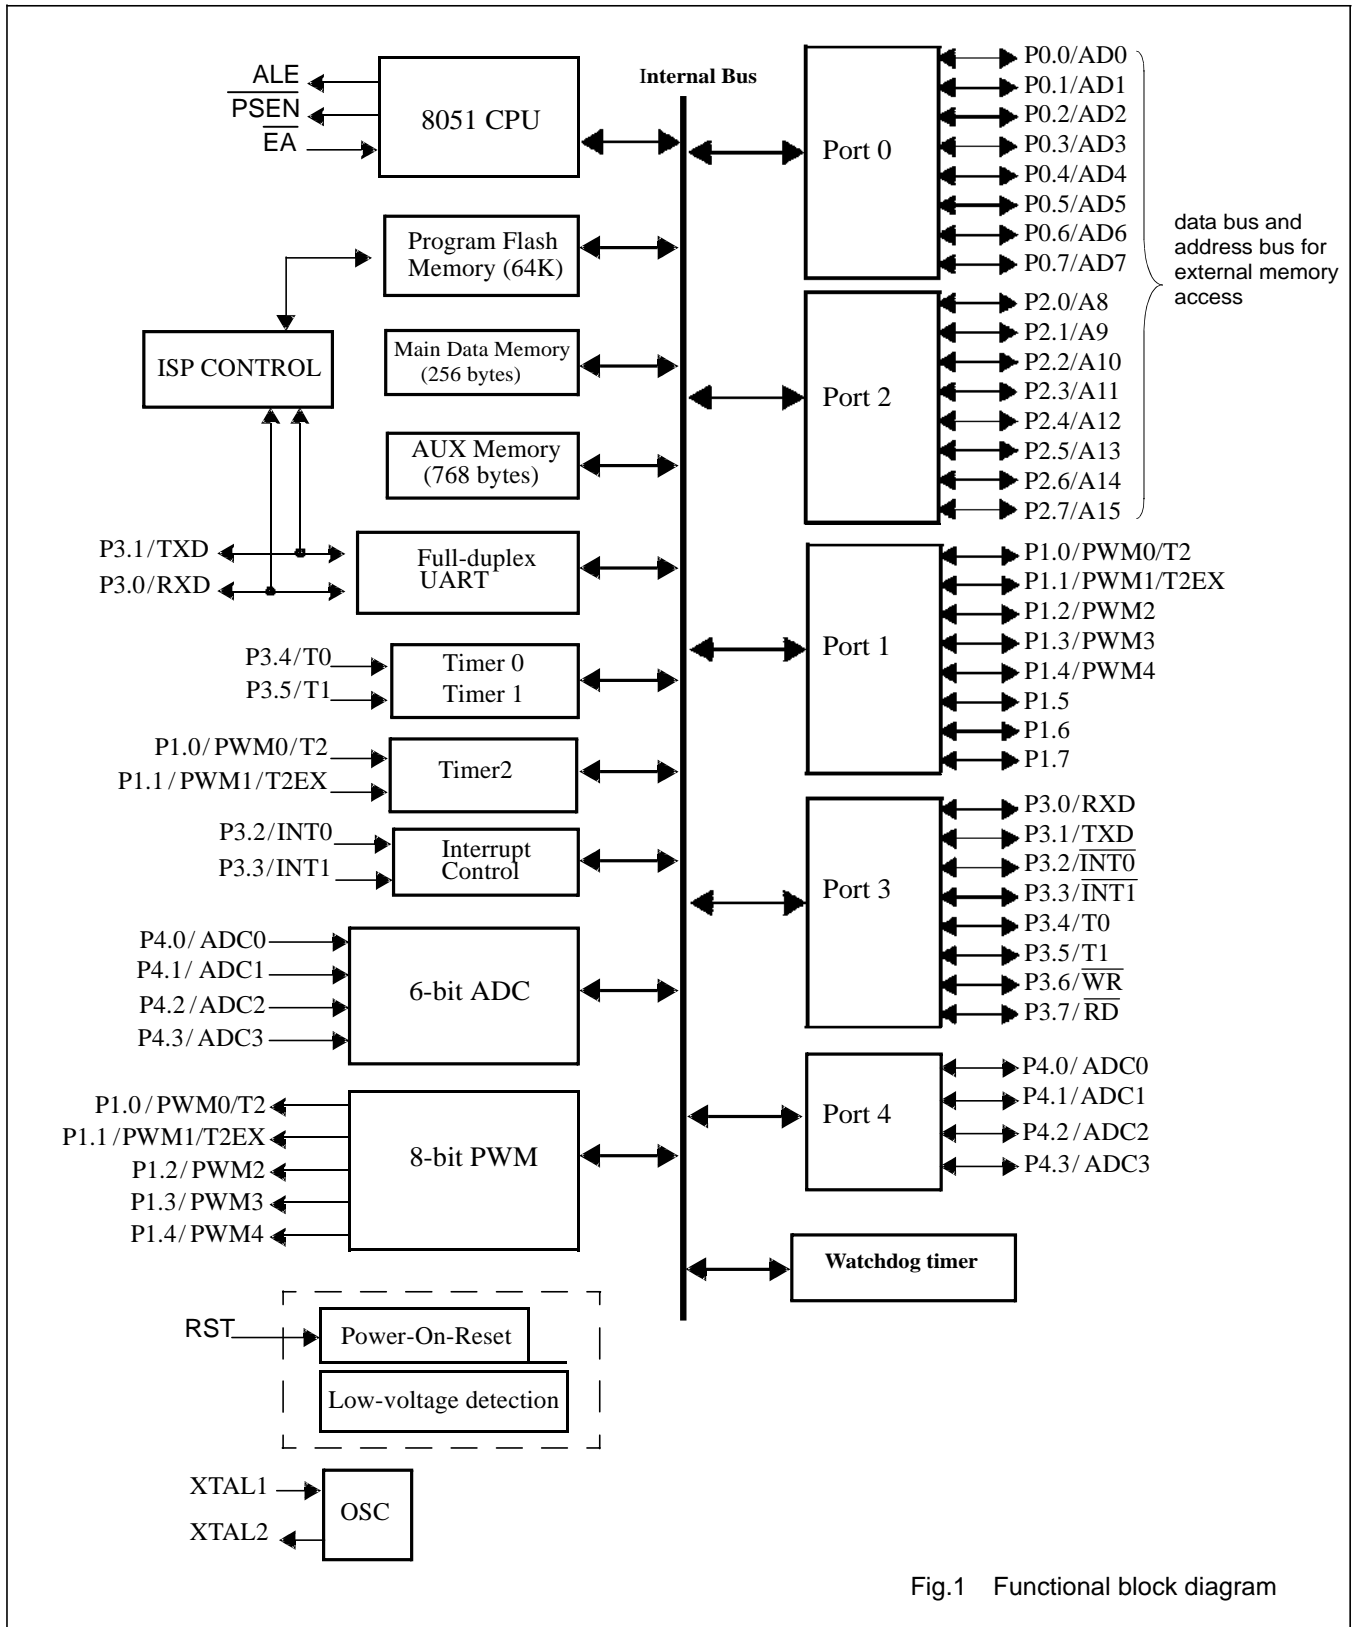

Fig.1 Functional block diagram
- Figure 1** Functional block diagram ...Page 5